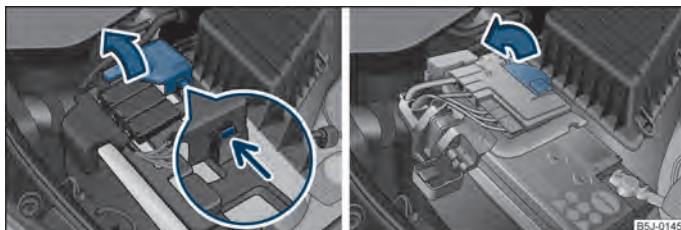

Fig. 132 The battery: Pull up the cover (automatic gearbox)/(manual gearbox)
- Unlock the interlock on the positive terminal side of the battery ⇒ fig. 132 - left.
- Pull up the cover in direction of arrow ⇒ fig. 132 - left (automatic gearbox) or ⇒ fig. 132 - right (manual gearbox).